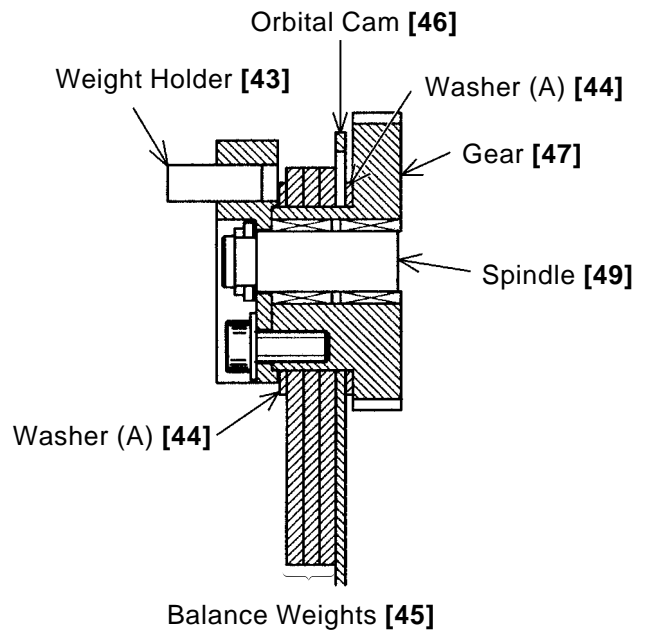

Fig. 14
- (3) Carefully ensure that two Washers (A) [44], the Orbital Cam [46], and the three Balance Weights [45] are assembled as shown in Fig. 14.